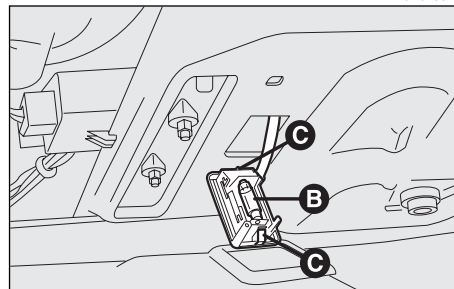

fig. 66
- Replace the bulb (**B-fig. 66**) of the cylindrical type pulling it outwards ensuring that the new bulb is correctly positioned between the contacts.
- Refit the transparent cover ensuring that the retaining tabs click into place (**C-fig. 66**).